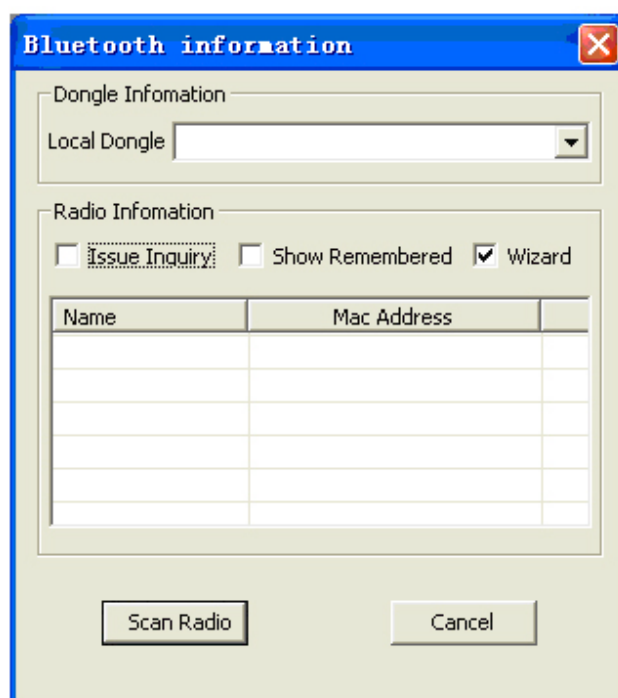

Figure 3-16
(3). Select “Wizard” in the interface as shown in Figure 3-16, the following operations refer to steps I ~ IV.
I . After choosing “Wizard”, click “Scan Radio” in figure 3-16. Click the button “My device is setup and ready to be found”, the following screen appears as shown in Figure 3-17.